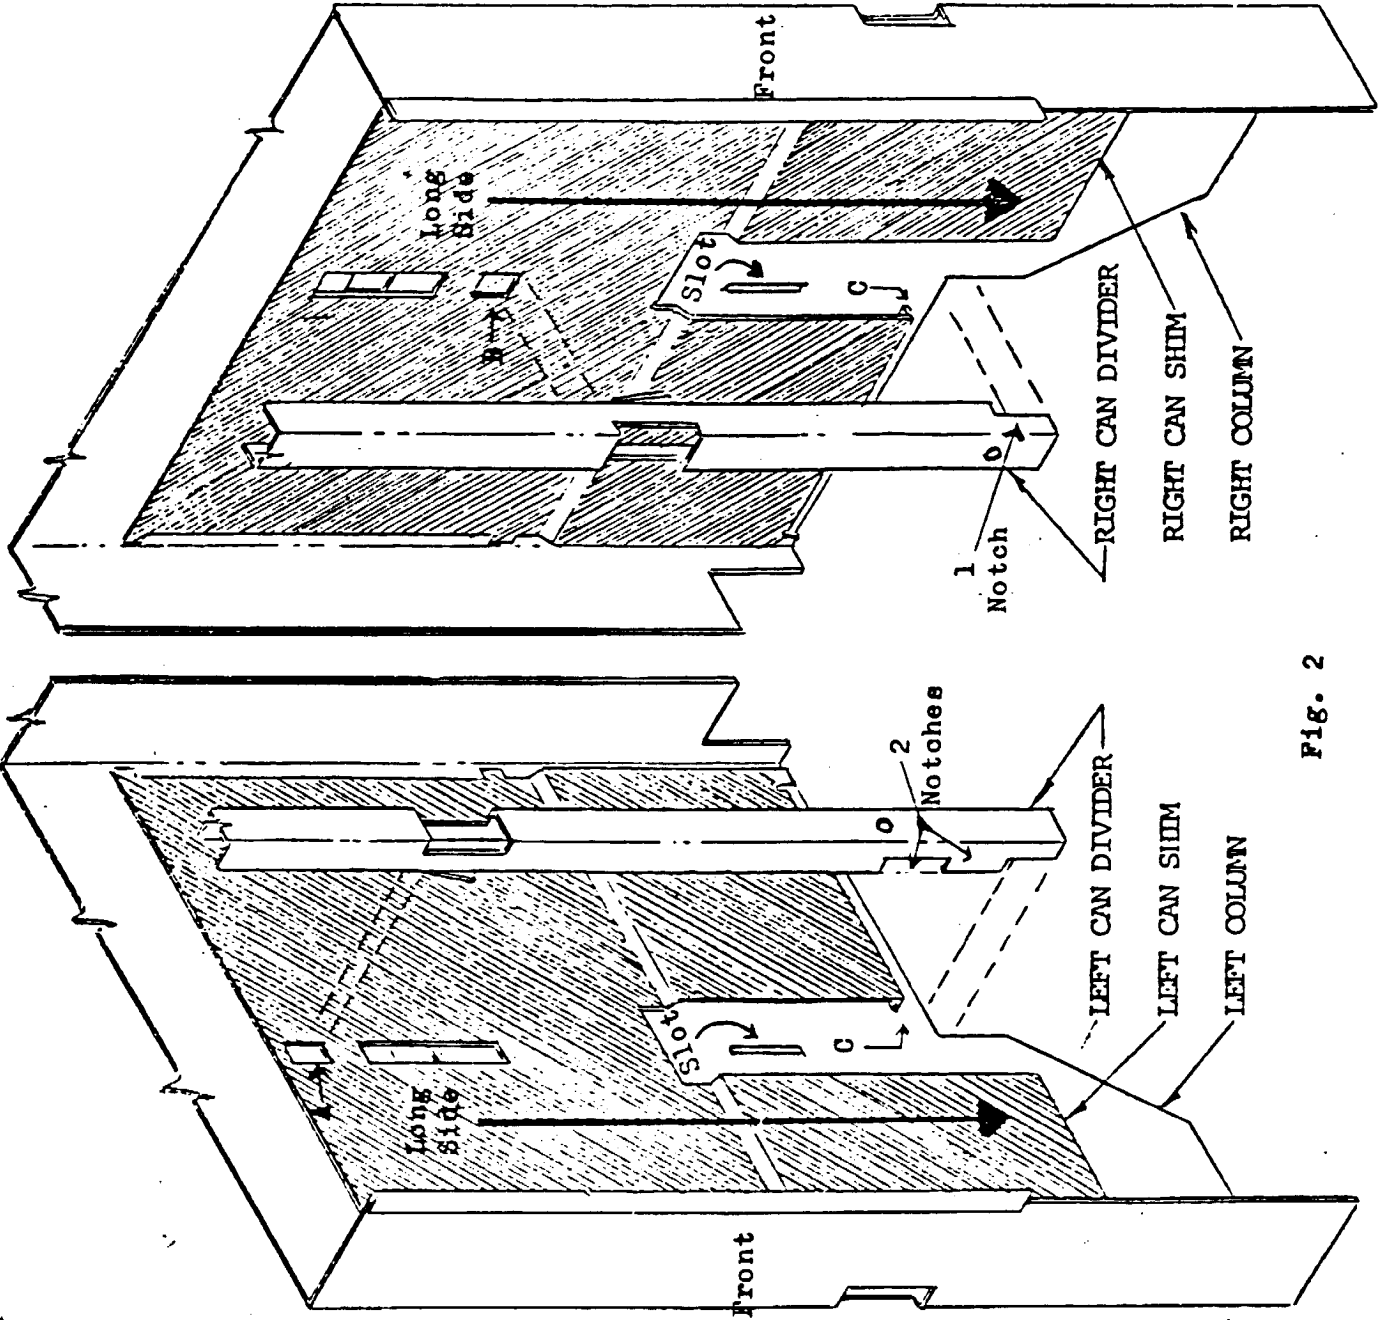

Fig. 2
2. Study the relationship of each shim to its column ie, long side towards front and metal "break" against column C. (Fig. 2)
3. To install the left can shim on the left column align rectangular hole A with top rectangular hole in the left column. Column holes are immediately above slot. Insert the lower tab of the left can divider thru rectangular hole A - - (Fig. 2) Push divider downward thus securing shim to column.
4. To install the right can shim on the right column align rectangular hole B with lower rectangular hole in the right column. Column holes are immediately above slot. Insert the lower tab of the right can divider thru rectangular hole B - - (Fig. 2) Push divider downward thus securing shim to column.